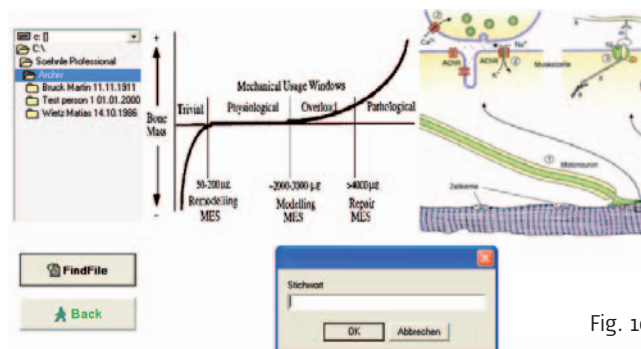

Fig. 10
**Search File...** Press the "Search File" button to open the search window (Fig. 10).